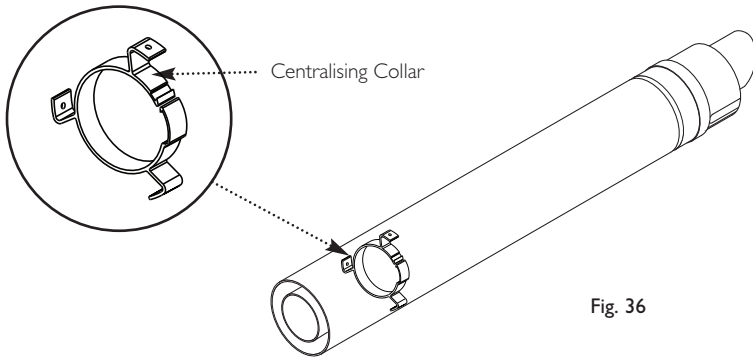

Fig. 36
7. Take the centralising collar (if not already fitted) and engage it over the flue duct. This will centralise the flue and air ducts, and ease assembly (Fig. 36).